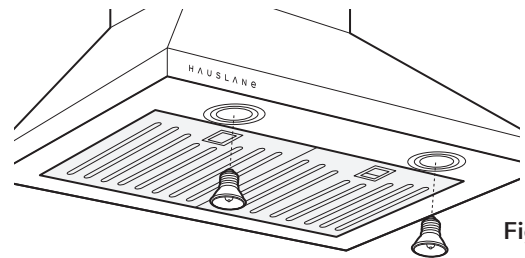

Fig.3
3. Gently push out the light bulb from inside. Install new lights by connecting the wire and pushing up the light. Reinstall baffle filters to complete the process. **(Fig.3)**